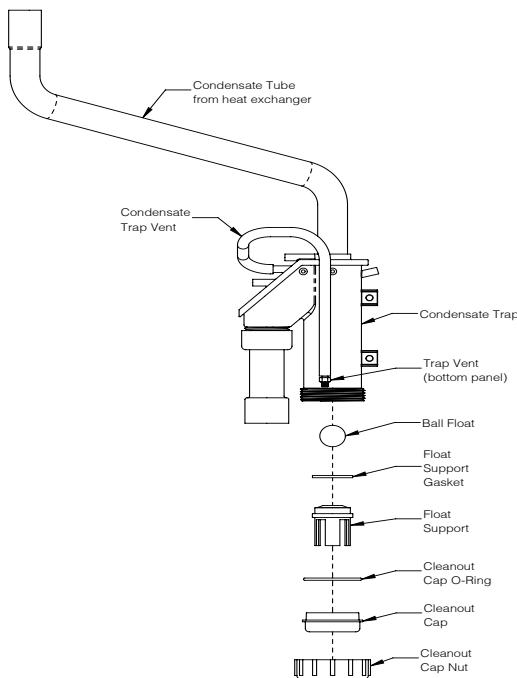

Figure 17-5: Condensate Trap Exploded Parts View
- Place bucket under condensate clean out cap on bottom of boiler (Figure 17-5) to catch water in trap as well as ball and support.
- Flush any debris found in trap with water - do not use other cleaning agents. Reassemble trap as shown in Figure 17-5.